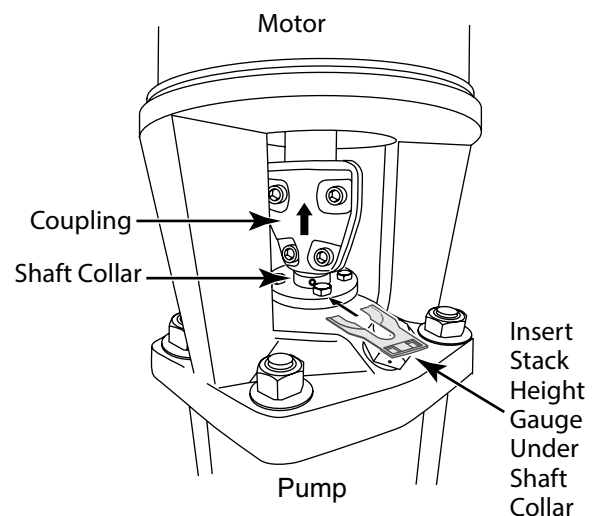

Figure 7 - Using the stack height adjusting tool
12. PVM(X)1-PVM(X)20: Reinstall the shaft pin (72) if your pump has one. Raise the height of the pump shaft by using the shaft pin (72) as a lift point (you may have to put a block under the pin and lift with a flat screwdriver). Insert the stack height adjustment tool (see Figure 7) in below the shaft collar and let the shaft collar rest on it. PVM(X)33 and larger: Pick up the shaft (if necessary, temporarily reinstall the coupling to provide a grip to lift by) and insert the stack height adjustment tool (see Figure 7) below the shaft collar. Let the shaft collar rest on it.